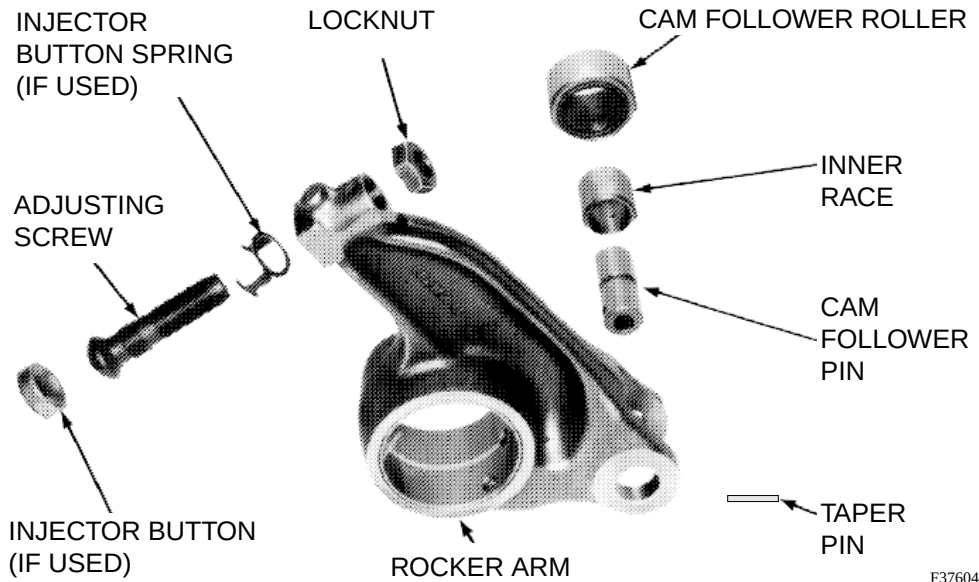

Figure 2-30. Injector Rocker Arm, Exploded View
1. Inspect the rocker arm cam follower roller, pin, and inner race, Figure 2-30. on page 2-31 and rocker arm shaft for evidence of heat discoloration, excessive wear, shelling or scuffing due to lack of lubrication and for fatigue cracks. Check machined notch (recess) on injector rocker arms for excessive wear step from trip pawl engagement.